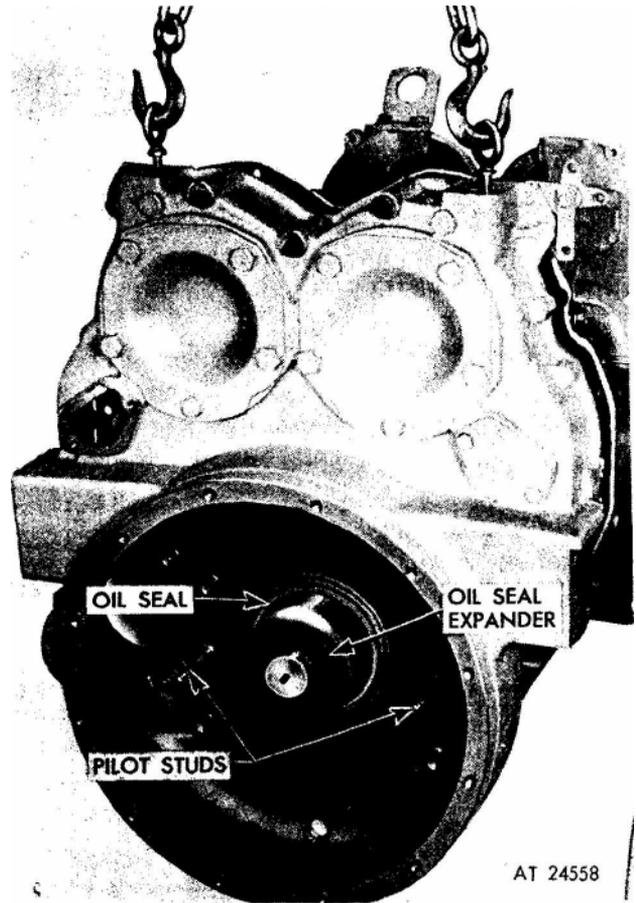

Figure 1. Installing flywheel housing.
7. To guide the flywheel housing until the oil seal clears the end of the crankshaft, thread two pilot studs, J 7540, into the cylinder block (fig. 1).
8. Thread eyebolts into the tapped holes in the pads (if provided) on the top or sides of the flywheel housing, and attach a chain hoist with a suitable sling to the eyebolts (fig. 1). Then strike the front face of the housing alternately on each side of the engine with a soft hammer to loosen and work it off the dowel pins.
5. To pilot the oil seal on the crankshaft successfully, use oil seal expander (J9769 standard size seal) of J 21278 (oversize seal) on the end of the crankshaft. Also thread two pilot studs, J 7540, into the cylinder block to guide the housing in place (fig. 1).